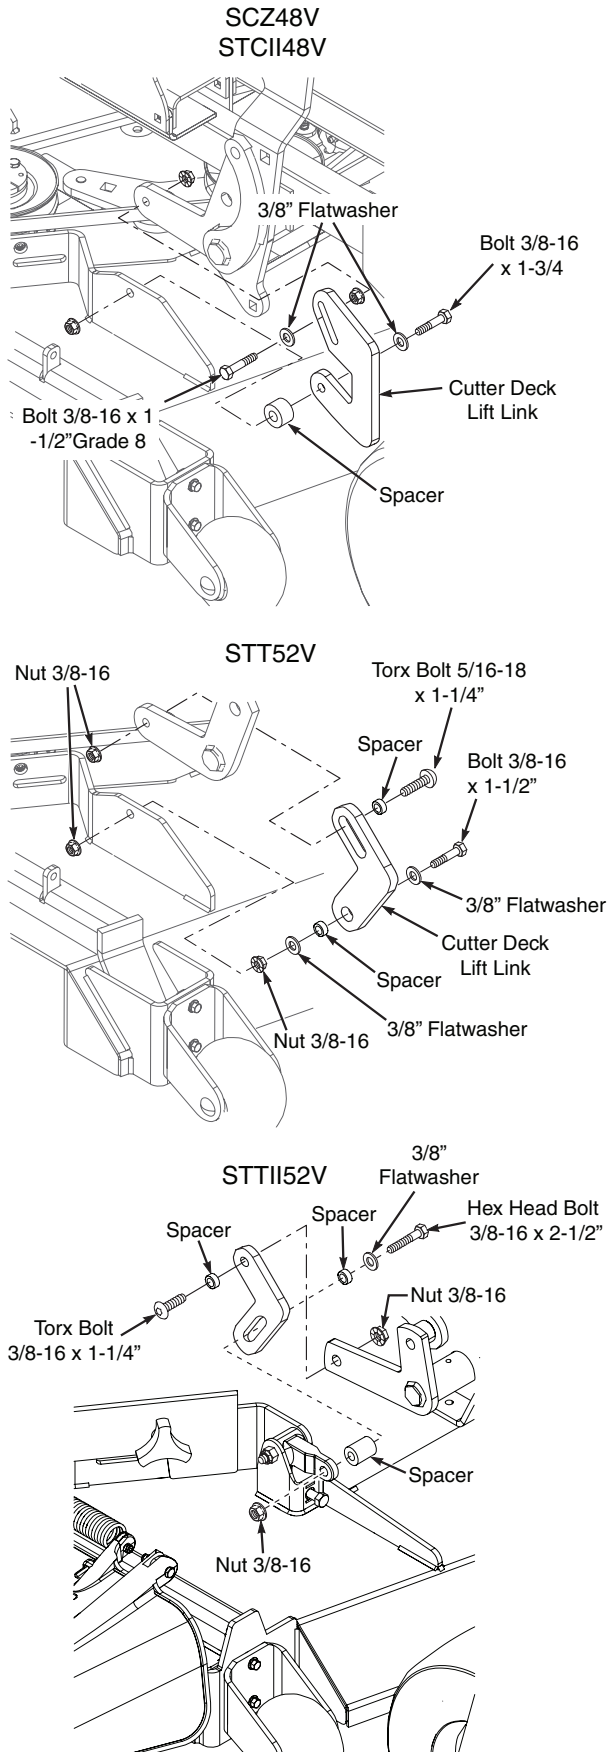

Figure 2-5. Cutter Deck Lift Link Installation
11. Install the cutter deck lift link (SCZ48V & STCII48V p/n 452393, STT52V & STTII52V p/n 423434) and secure using the hardware provided. See Figure 2-5.